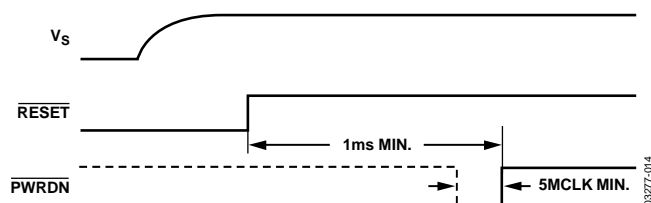

Figure 30. Power-Up Sequence for Tx Data Path
Upon initial power-up, the $\overline{\text{RESET}}$ pin should be held low until the power supply is stable (see Figure 30). Once $\overline{\text{RESET}}$ is deasserted, the AD9878 can be programmed over the serial port. The on-chip PLL requires a maximum of 1 ms after the rising edge of $\overline{\text{RESET}}$ or a change of the multiplier factor (M) to completely settle. It is recommended that the $\overline{\text{PWRDN}}$ pin is held low during the reset and PLL settling time. Changes to ADC clock select (Register 0x08) or System Clock Divider N (Register 0x01) should be programmed before the rising edge of $\overline{\text{PWRDN}}$. Once the PLL is frequency locked and after the $\overline{\text{PWRDN}}$ pin is brought high, transmit data can be sent reliably. If the $\overline{\text{PWRDN}}$ pin cannot be held low throughout the reset and PLL settling time period, the power-down digital Tx bit, or the $\overline{\text{PWRDN}}$ pin, should be pulsed after the PLL has settled. This ensures correct transmit filter initialization.